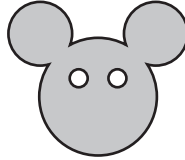

Fig. 1
- 1 Fig. 1 shows part of a toy made from 4 mm thick manufactured board.